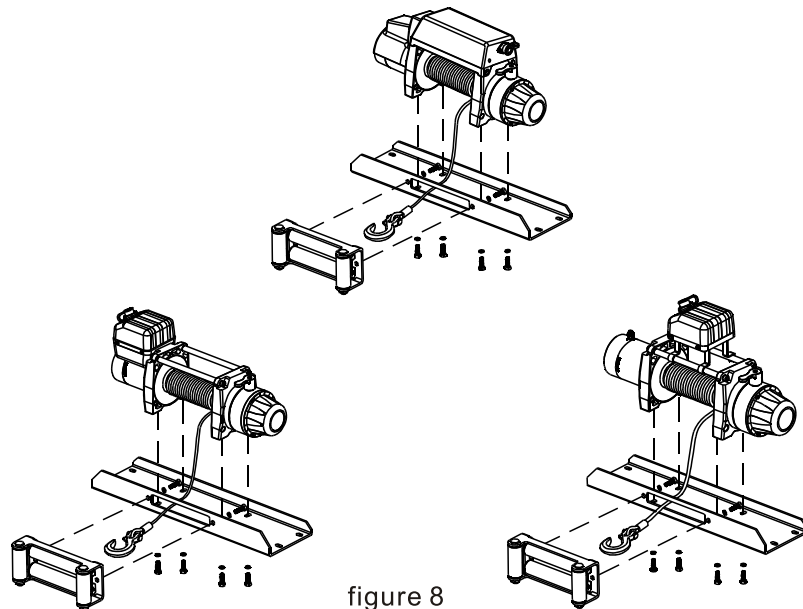

figure 8
- ◇ Use bolt to install the winch to a base plate(See figure 8).